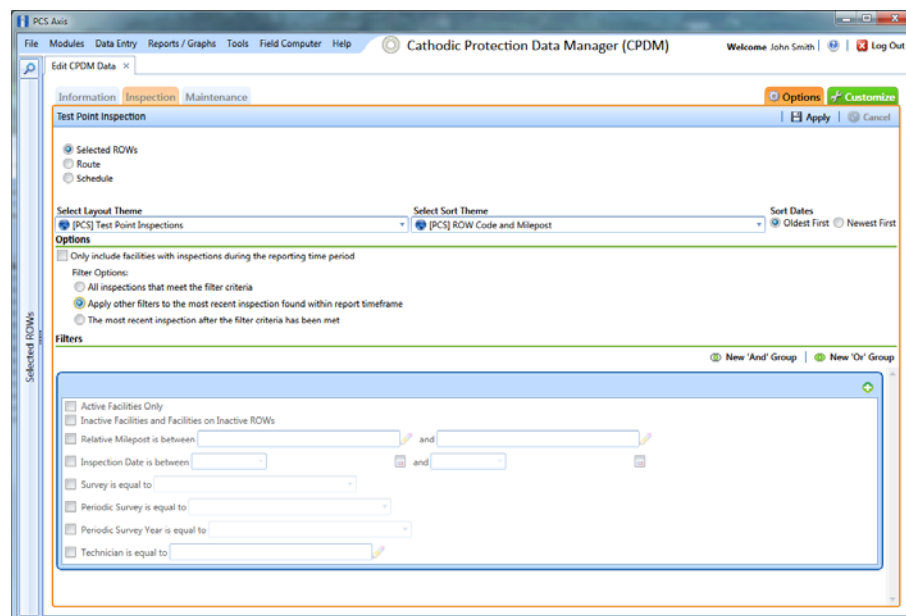

Figure 6-35. Options/Inspection Grid
- 3 Click the **Options** tab  to open the *Options* page (Figure 6-35).